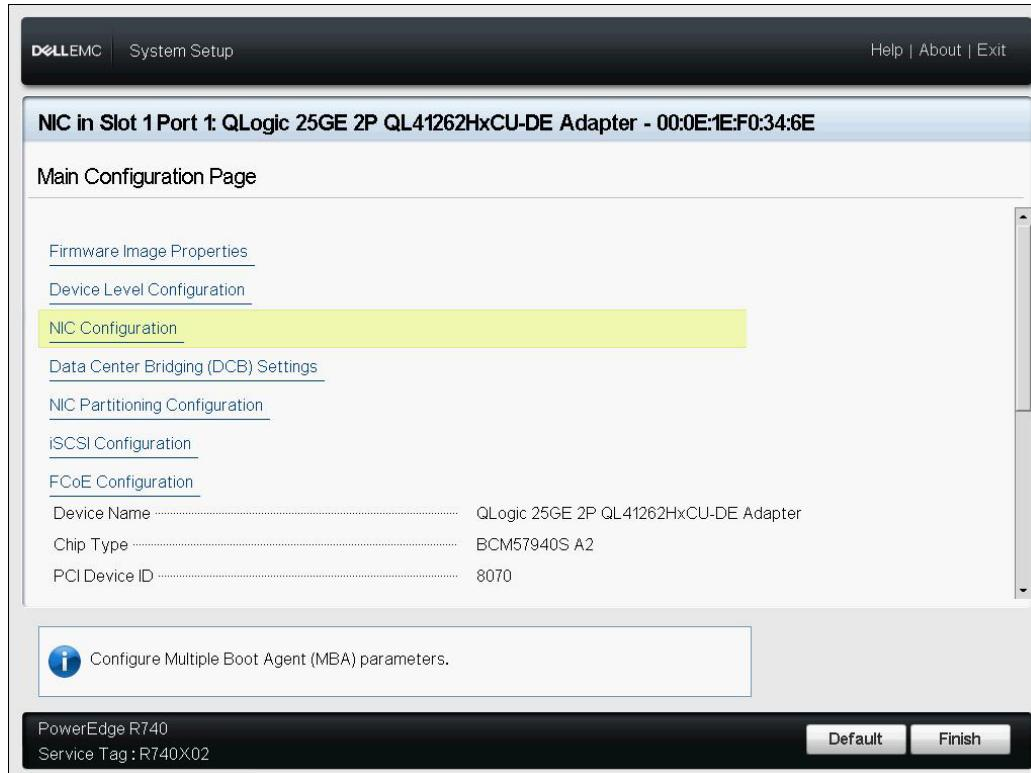

Figure 10-3. System Setup: NIC Configuration
4. On the Main Configuration Page, select **NIC Configuration** (Figure 10-3), and then press ENTER.